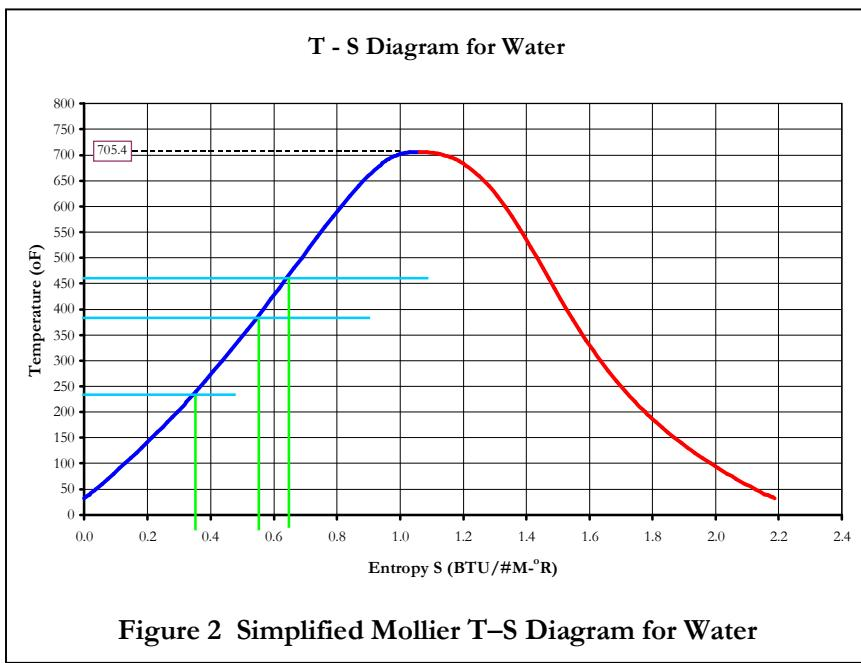

Figure 2 Simplified Mollier T-S Diagram for Water
In viewing Figure 1, it is understandable that for the ‘uninitiated’ or those Engineers who are a bit ‘rusty’ in Thermodynamics, this graph may appear a bit daunting, merely due to the large number of property curves that it contains. In order to make things a bit clearer, and to provide further explanation regarding what all these lines represent, a more simplistic T – S Diagram is presented as Figure 2. In this Figure, just one property curve appears, and if the reader looks closely at Figure 1, this is the bell-shaped curve beginning at the lower LH corner, rising up and then falling back again to the lower RH corner of the Diagram. This bell-shaped curve is called the “Vapor Dome”, somewhat misnamed, but this will also be explained shortly.
Referring to Figure 2, one can clearly see the Vapor Dome, but it is divided into a left hand blue curve and a right hand red curve. What does this mean? It indicates that by definition the state of matter on the blue line is what is called “Saturated (liquid) Water”. On that line and to its left, water is always and only a liquid. The state of matter on the red line, again by definition, is called “Saturated Gas”. On this line and to its right, water is always and only a gas. Three horizontal lines of constant Temperature are shown (in light blue). At the precise point where each constant light blue Temperature line intersects the darker blue Saturation curve, a corresponding orthogonal light green line is shown. Each green line indicates the Entropy of Saturated Liquid at *that specific* Temperature. Collectively, the green lines also tell us that as the Temperature of Saturated Liquid *increases*, so does its Entropy. Conversely (though not explicitly drawn in the Figure), as the Temperature of Saturated Gas *decreases*, so does its Entropy.
Returning to Figure 2, the reader should notice that there is an intersection of the blue and red curves at the point of greatest temperature on the Vapor Dome, precisely at 705.47° F. So, if the blue curve defines *liquid* water, and the red curve defines *gaseous* water, what state of water exists at their intersection? Good question. The answer is that the point of intersection of the Saturated Liquid curve and Saturated Gas curve on the Vapor Dome is called the “Critical Point”, and it is at this point that the state of matter, water, is neither, and both, a gas and a liquid. In essence, it is at this point that water exhibits the properties of both a gas and a liquid.
There is one final point to be made regarding Figure 2, and that is the space between the blue and red curves within the Vapor Dome. What exists there? Once again, a good question. For the answer, the reader is asked to select any one of the three horizontal constant Temperature lines. Now, beginning at the far left side where the chosen constant Temperature line intersects the darker blue Saturated curve, this as we now know is the point where 100% of the water exists as a Saturated Liquid. At this point, no water exists in a gaseous state. Now, if the reader moves to the right just a fraction of an inch along the constant Temperature line, a small percentage of water will exist as a gas because a corresponding small amount of energy, as heat, will have been applied. The remaining large percentage of mass still exists as a Saturated Liquid. And, as one moves farther and farther to the right along this same constant Temperature line, more and more water will exist as a gas (because increasing amounts of energy will have been incrementally applied), while less and less will exist as a liquid. At the farthest edge of any constant Temperature line, where it intersects the red Saturated Gas curve, all of the water will exist as a gas by definition. No liquid water exists at this point, nor at any point along this Temperature line farther to the right of the Vapor Dome. So, in summary, any horizontal constant Temperature line through the Vapor Dome represents the process where increasing amounts of heat are applied to a unit mass of liquid water *at that Temperature*, resulting in more and more of this liquid being converted into a gas, which we call *steam*. The process continues until 100% of the water is converted into steam, this point is where the constant Temperature line intersects the Saturated Gas curve. Steam, by definition is gaseous water; it is colorless, odorless and invisible to the eye. Water *vapor* by contrast is not steam, but microscopic droplets of liquid water that we can physically see and feel. In this regard, the distinction between water vapor and water as steam makes the aforementioned term ‘Vapor Dome’ somewhat of a misnomer, because the outline and internal volume of the Vapor Dome represents the entirety of the Thermodynamic properties of liquid water and gaseous water as steam (not vapor) all of which coexist at an array of various Temperatures. Again, vaporous water is actually liquid water in microscopic droplets; steam is contiguous water existing entirely as a gas.
The remaining Thermodynamic properties not illustrated in Figure 2 or yet discussed, Pressure, Enthalpy and Specific Volume are illustrated in Figure 3. Lines of constant Pressure (P) are shown in light brown, while Enthalpy (H) is shown in violet, and Specific Volume (η) in plum.